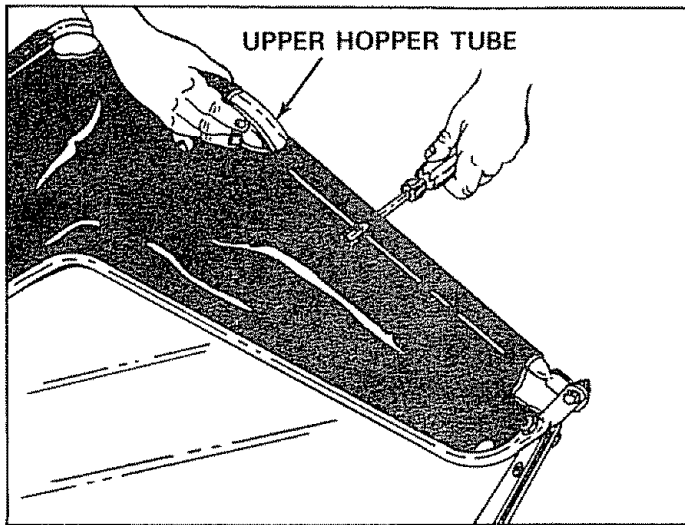

FIGURE 20
12. Locate hole along side of upper hopper tubes and pierce a hole through the bag aligned with the hole in the tube. See figure 20.